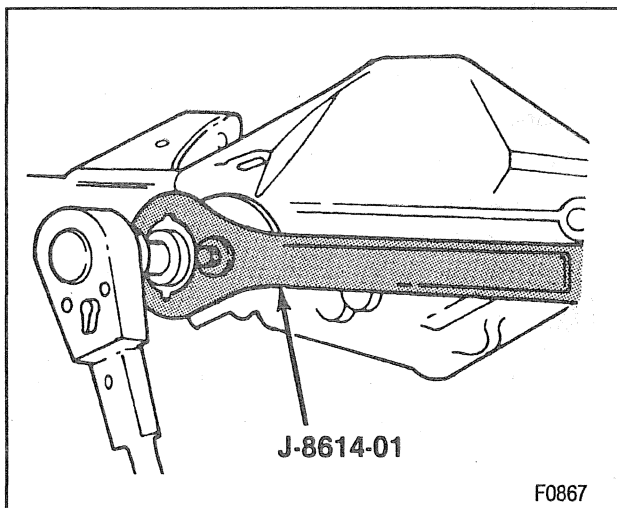

Figure 17—Removing the Drive Pinion Nut
- Position J 8614-01 on the flange so that the four notches on the tool face the flange (figure 17).